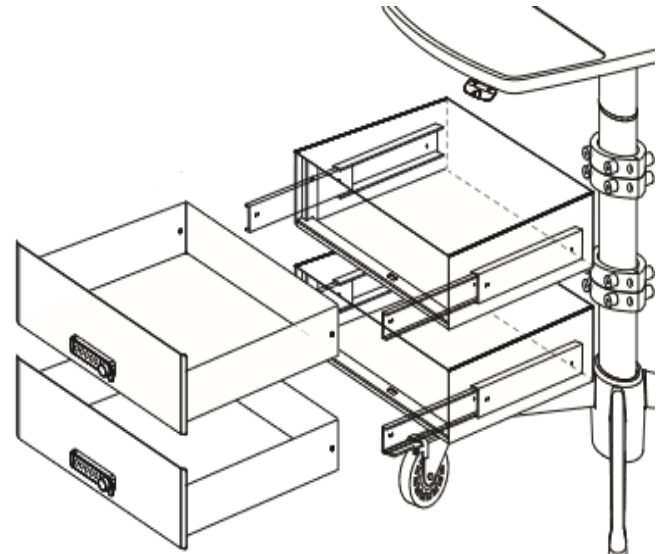

Figure 1. The accessory mounting brackets aligned on the column with the DS2.
2 Measuring 6" down from the top of the column, attach third set of the accessory mounting brackets to the column using (2) 10-24 x 1" Phillips pan head screws. Directly below the third set of accessory mount brackets, attach the fourth set of accessory mounting brackets to the column (figure 1).
4 Once the drawers are removed, proceed with installing the DS2 to the accessory mounting brackets. Align each set of the 4 holes located inside the back walls of the DS2 with the 4 holes on each set of the accessory mounting brackets. Insert and tighten the (8) 10-24 x 7/8" Phillips pan head screws into the accessory mounting brackets (figure 1).